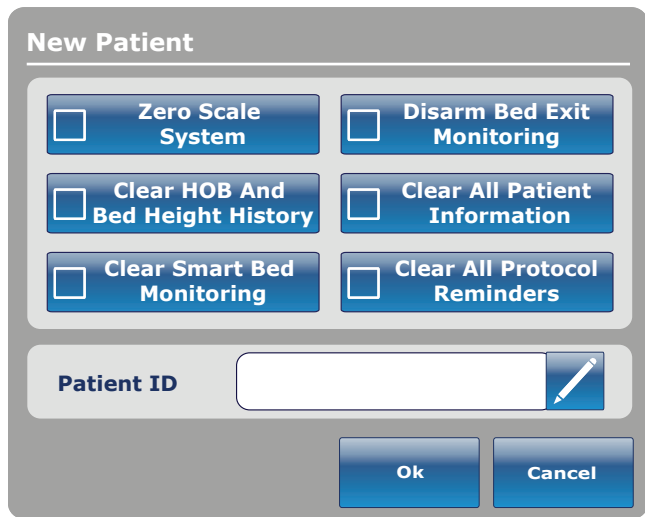

Figure 3.1
- New Patient: pressing on the “New Patient” button displays Figure 3.1 and patient information may be entered.
When the “New Patient” button is pressed on the Patient Information screen, Figure 3.1 will be displayed. The operator can enter the new patient ID by pressing the pencil icon which will bring up the keyboard screen. When the patient name is entered, the operator presses the “Ok” button on the keyboard screen and then “Ok” on the New Patient screen. The Patient Information screen will be displayed with the new patient ID.